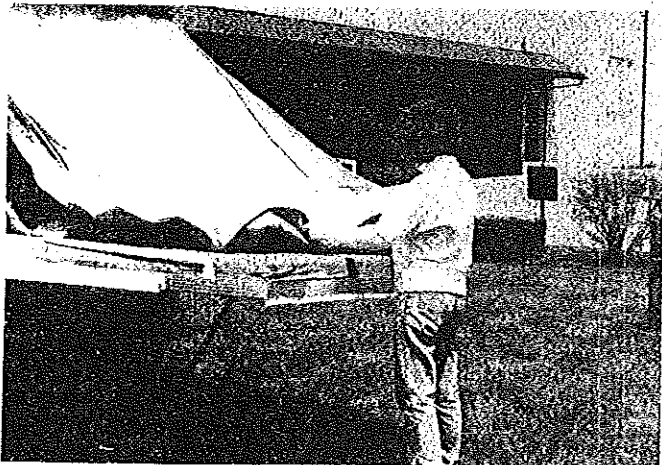
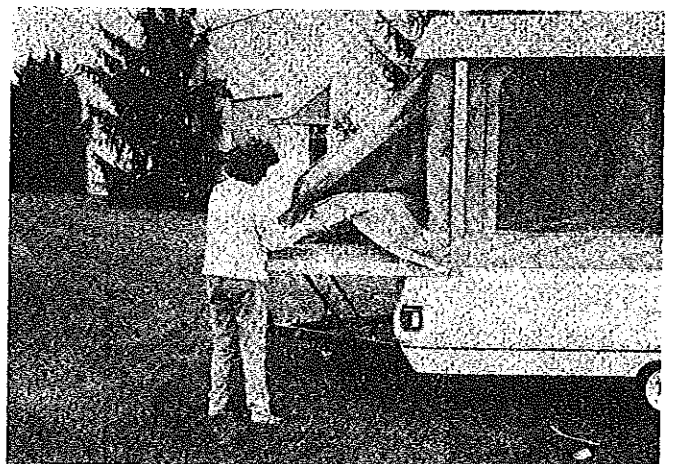

FIGURE 14
FIGURE 15
18. With both beds fully extended and supported, grasp the bottom edge of either the front or rear tent enclosure with hands approximately 2 1/2 feet apart. Gently pull until the tent fabric is pulled out toward the end of the wing beds. See Figure 14. Standing at either side of the wing bed, reach in underneath the tent fabric and grasp the side of the canvas bow and rotate toward the end of the bed. See Figure 15.